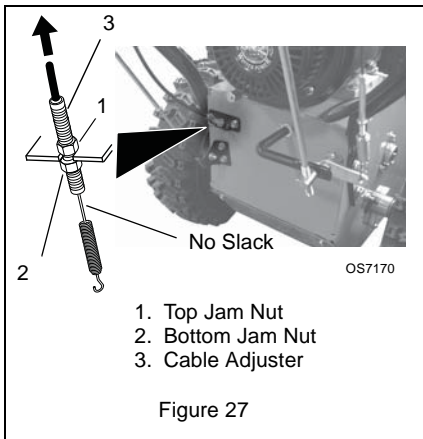

Figure 27
2. Loosen jam nuts on cable. Make sure the bottom jam nut is loosened enough to remove slack from cable (Figure 27).